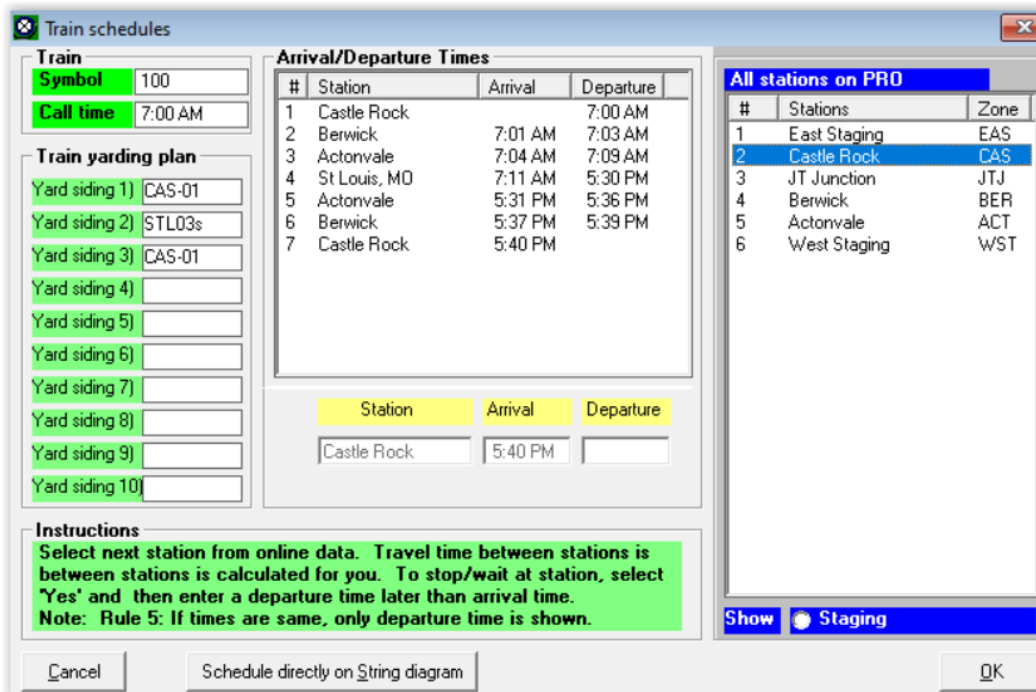

Figure 13-20e
- i. It is now time to enter the last stop at Castle Rock. This begins the same by double clicking on Castle Rock in the right hand panel, but this time ProTrak recognizes it is our termination station so it just enters the station and arrival time in the schedule, see Figure 13-20e. We can see that the time is correct, if it needed correcting we would have double clicked on the schedule entry to make the change as in step 7f above.